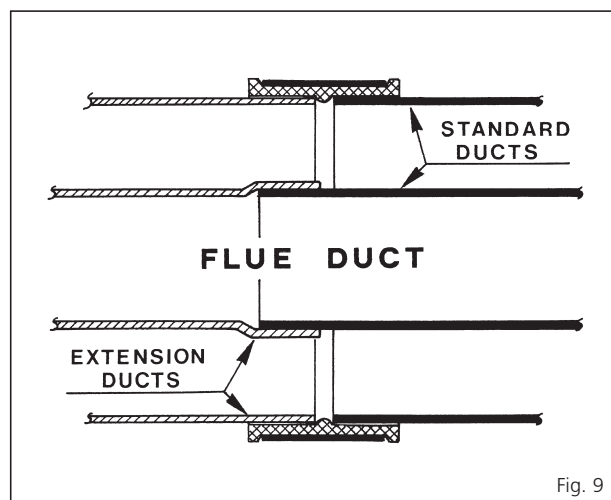

Fig. 9
- If an extension duct or ducts is/are to be used, the flue and air ducts should be joined before proceeding to the next section. The extension ducts should be joined to each other and to the standard ducts using the following procedure (fig. 9):